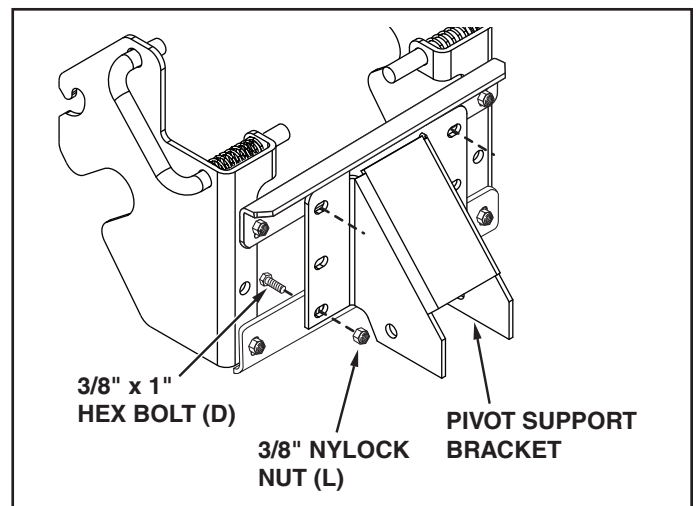

FIGURE 12
STEP 2: (SEE FIGURE 12)
- Assemble the pivot support bracket to the slotted angle support brackets using four 3/8" x 1" hex bolts (D) and four 3/8" nylock nuts (L). **Do not tighten yet.**